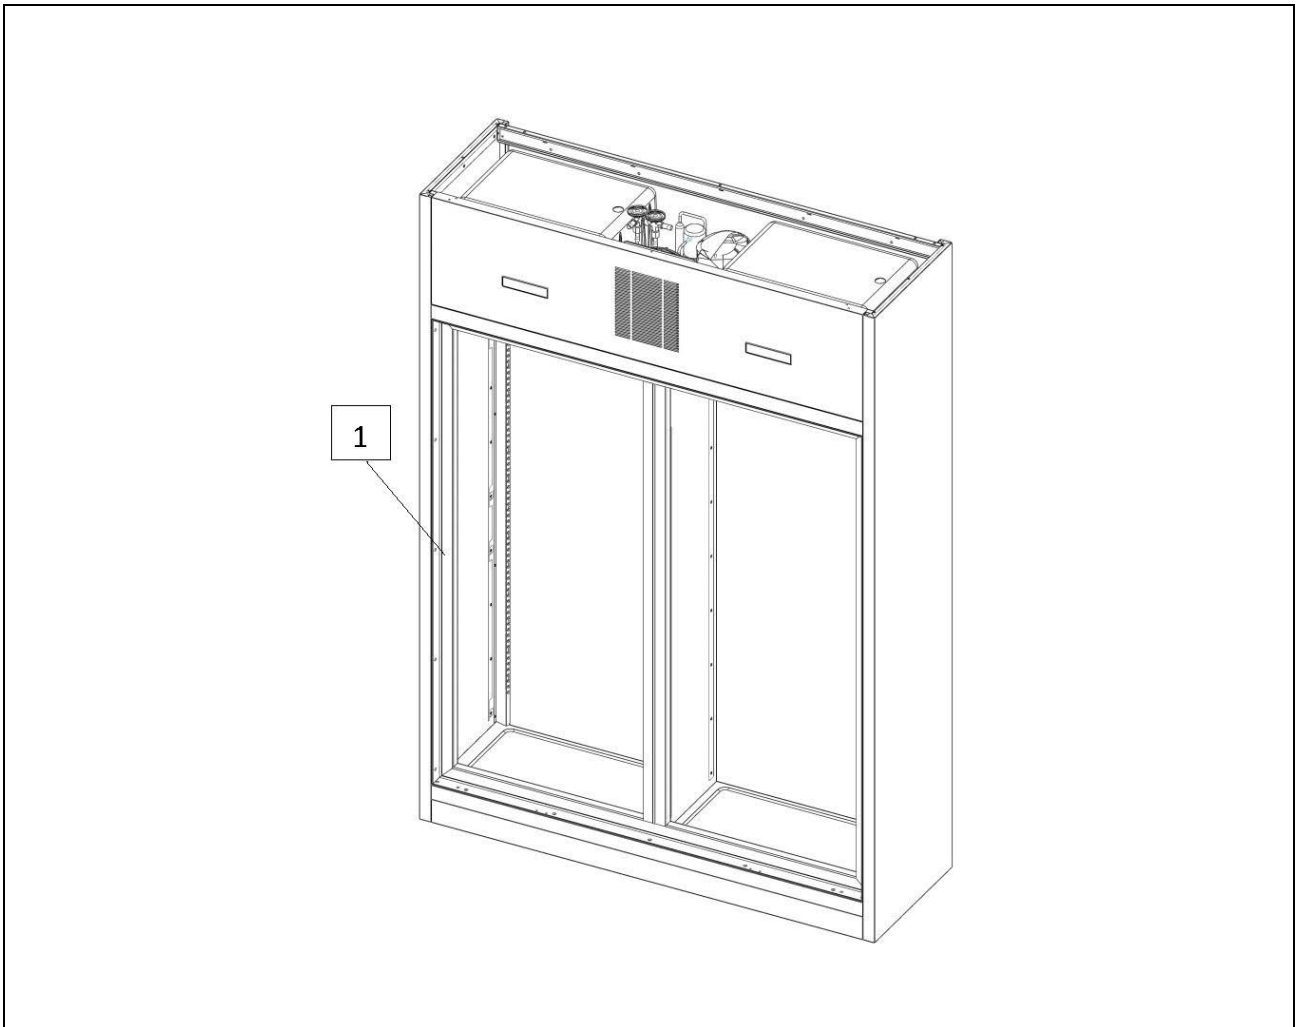

Fig. 9
Carefully clean the cabinet interior, the contact surfaces of where the door closes (ref. 1 fig. 9) and the gasket using a sponge soaked with neutral detergent, neither of which must be abrasive. Rinse thoroughly using a clean sponge soaked with water and then wipe dry using a clean cloth.